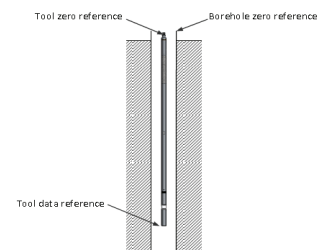

Figure 4-2 Correct tool positioning when zeroing depth
4. ☐ Click the extend icon  in the **Depth** panel and press **Zero Tool** (**Figure 4-2**).